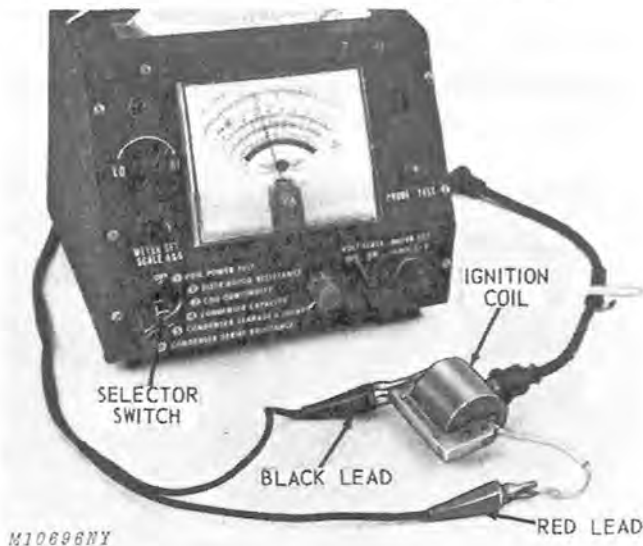

Fig. 16-Primary Resistance Test
2. Connect the black test lead to coil laminations of ignition coil and the red test lead to the ignition lead on coil, Fig. 16.